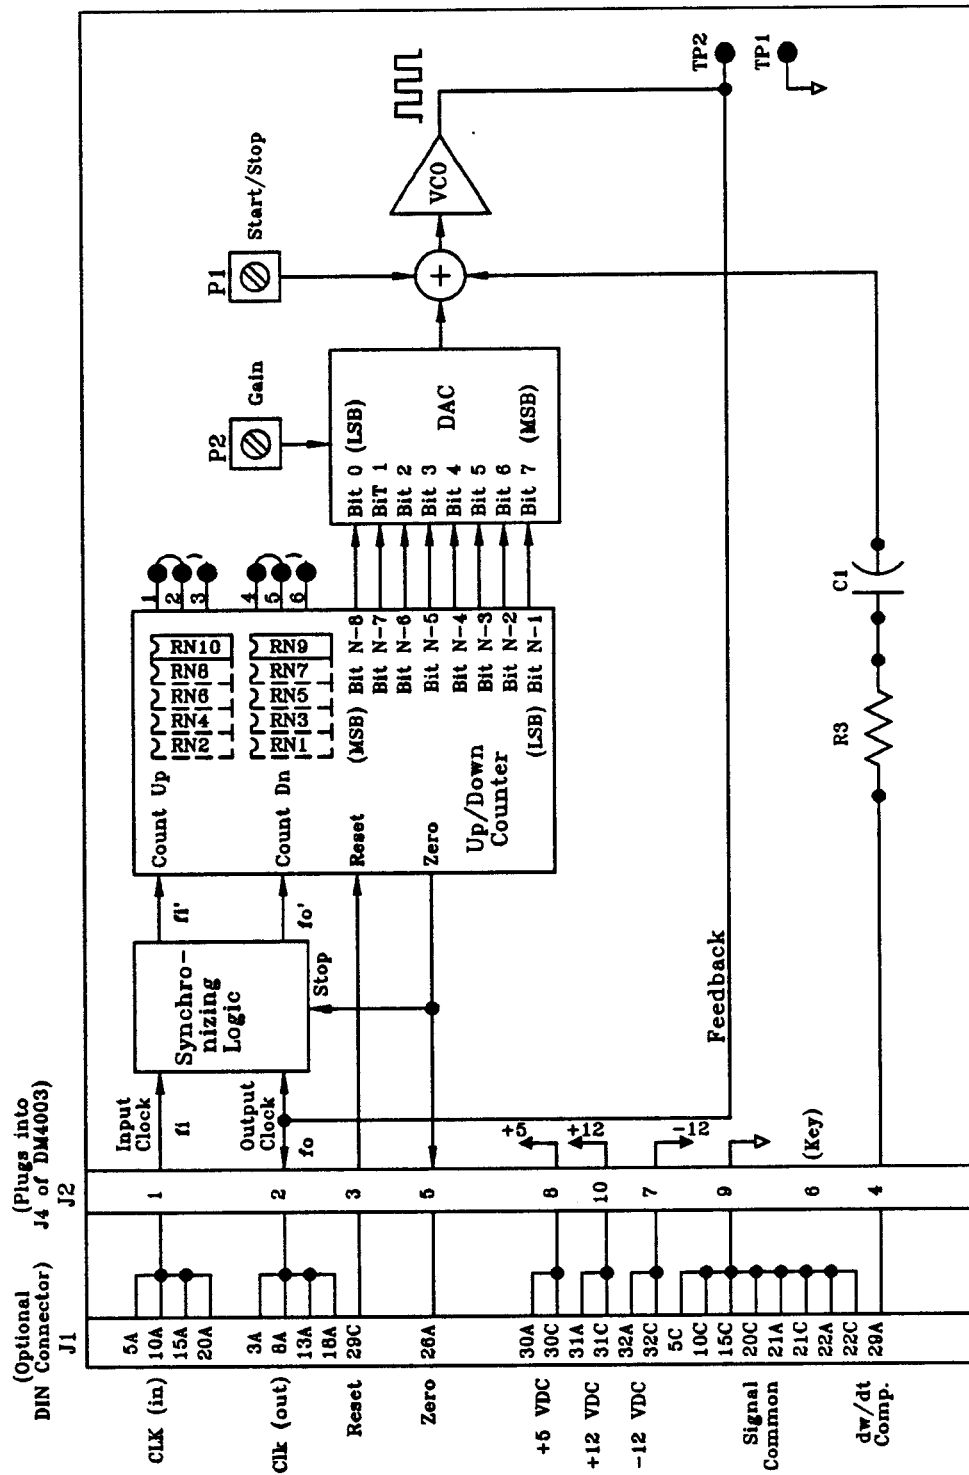

Figure 3-3: Block Diagram of 1MR Circuit
- Turn potentiometer P1 on the 1MR full CCW (see figure 3-3 and 3-4), and then slightly CW (approximately 1/8 turn).
- Manually slew the stepping motor back and forth, adjusting potentiometer P2 slowly CW until the desired accel/decel rate is achieved (excessive accel/decel will stall the motor). If the DM4005/4003/4001/1501 takes too long to stop, turn P1 slightly more CW. Before proceeding, it is assumed that the slew frequency represents the maximum frequency desired (see item 1 and item 7 of table 3-1). If this is not the case, frequency control may have to be done through the remote clock and remote direction inputs (item 2 of table 3-1). After the desired accel/decel rate has been achieved, slowly turn P1 CW until the desired start/stop speed has been achieved. (Excessive start/stop will also stall the motor.)